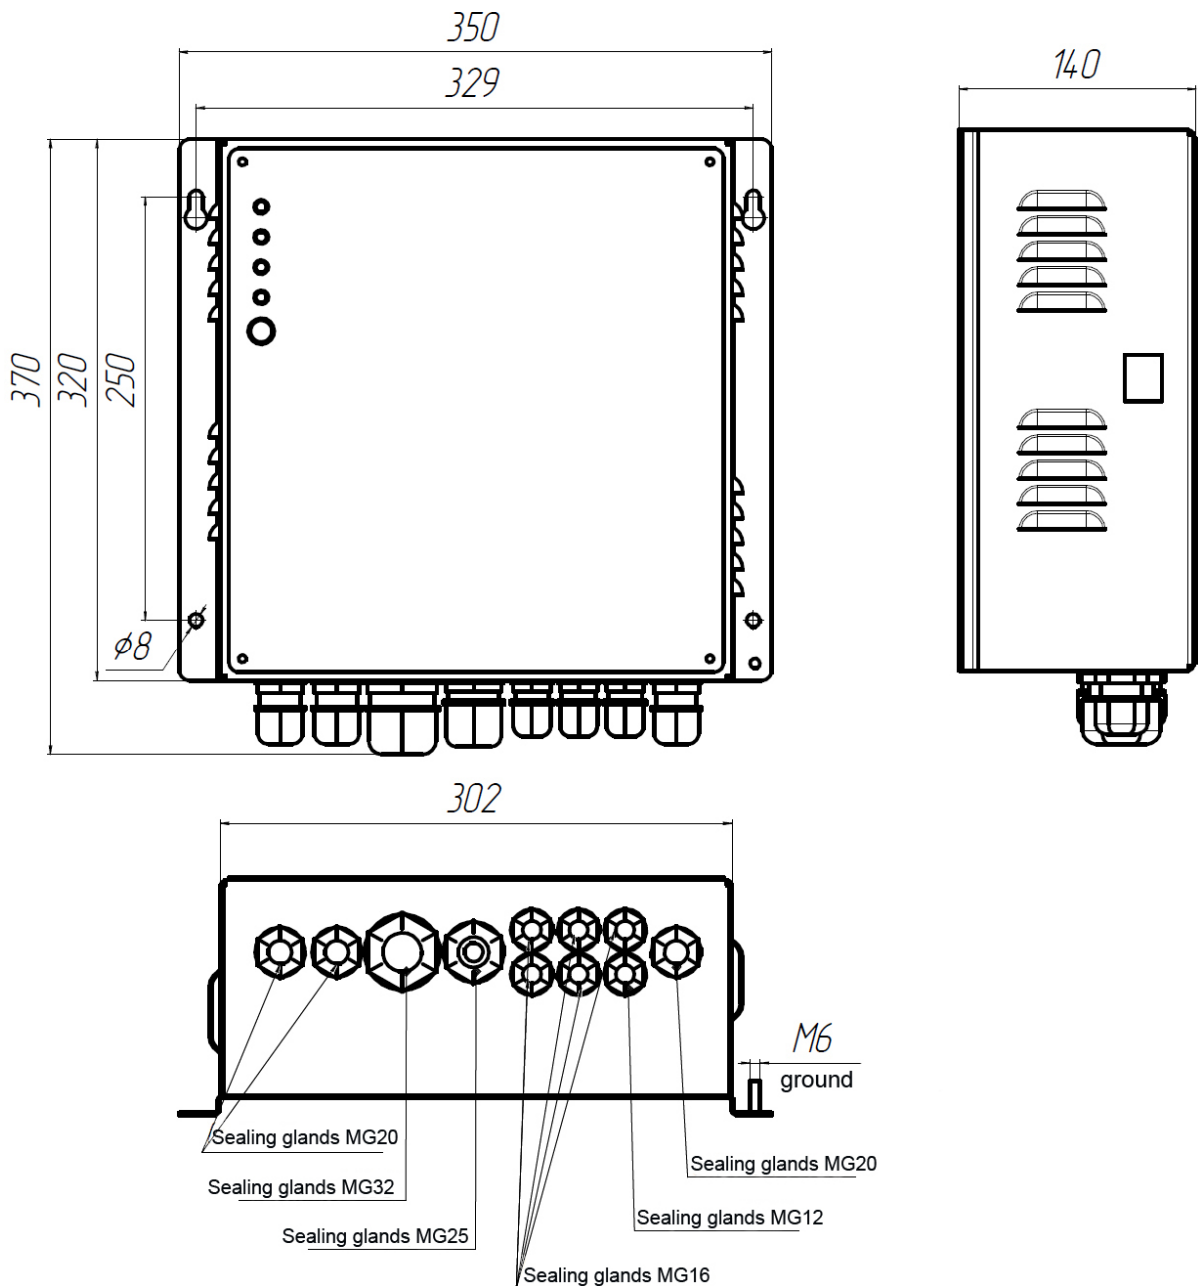

Figure 8. Outline Drawing and Setting Dimensions of the Device
2. The device housing shall be securely fastened with bolts or self-tapping screws (see Figure 8).
6. Earth the PS housing in the common earthing bus of the vessel. An earthing bolt is located from the right side at the bottom part of the PS housing (see Figure 8).